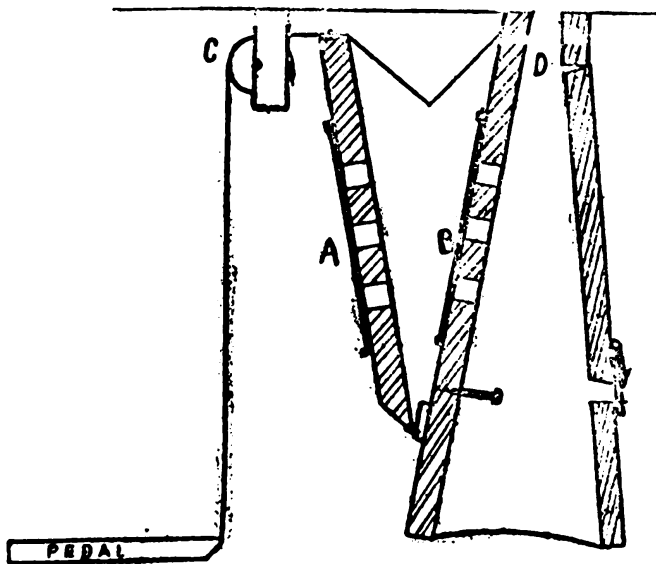

FIG. 1.
Commencing then with the American organ, I will endeavour to set forth clearly the troubles to which this instrument is heir; and afterwards to deal with its worsted rival, the harmonium. The most useful tool to have in your bag when on organ work is the screwdriver and it is advisable to have three or four sizes and patterns: organ makers find such odd little corners for their screws! One fault with the bellows which greatly puzzles many tuners is when an organ cannot be blown properly, though apparently the bellows are in good order. In Fig. 1 is shown the side view of part of the bellows as applied to American organs. No doubt most of you are aware that the bellows of the reed organ exhaust the air from the air chest and this is done by means of the exhauster and the two valves (A and B). Now it sometimes happens that the inner valve (B) becomes curled and does not close properly; and the consequence is that when the exhauster has been filled with air extracted from the reservoir
tain a vacuum), they will most likely require recovering; but it would be well to make quite sure that the bellows are at fault and to do this properly the whole bellows must be removed and some paper or leather placed over the apertures shown at D (Fig. 1).